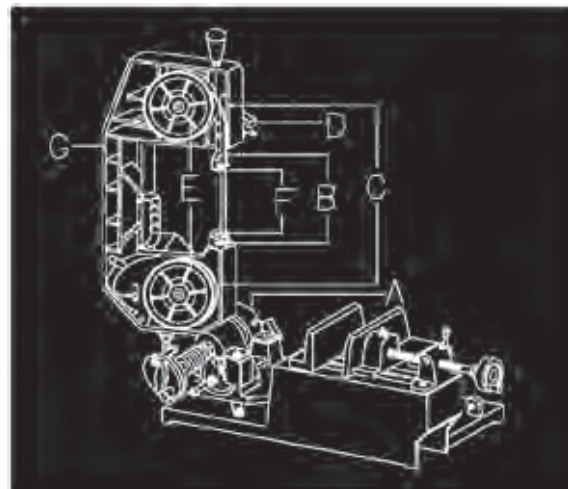

Fig. 5
1. Raise the cutting head by 90 degrees by gently lifting button (A) of Fig. 5 so as to release the locking pin and slide it into the groove to allow the saw arm to be positioned in the vertical position.
2. Remove the blade guards (B) and the blade cover by undoing the two bolts (C) of the saw casing.
3. Push back the tension lever (D) to the left to allow the blade to be released.
4. Remove the blade from the two wheels (E) and the blade guide bearings.
7. Replace the blade guards and cover (G) Start the machine to check if the blade is functioning properly.